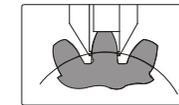

Fig.4
- Move caliper to make horizontal vernier jaw contact the left side of the measured gear. Rotate fine adjusting wheel to move jaw to make the other jaw contact the right side (Fig.4), tighten the locking screw, take down the caliper, get the chordal thickness.